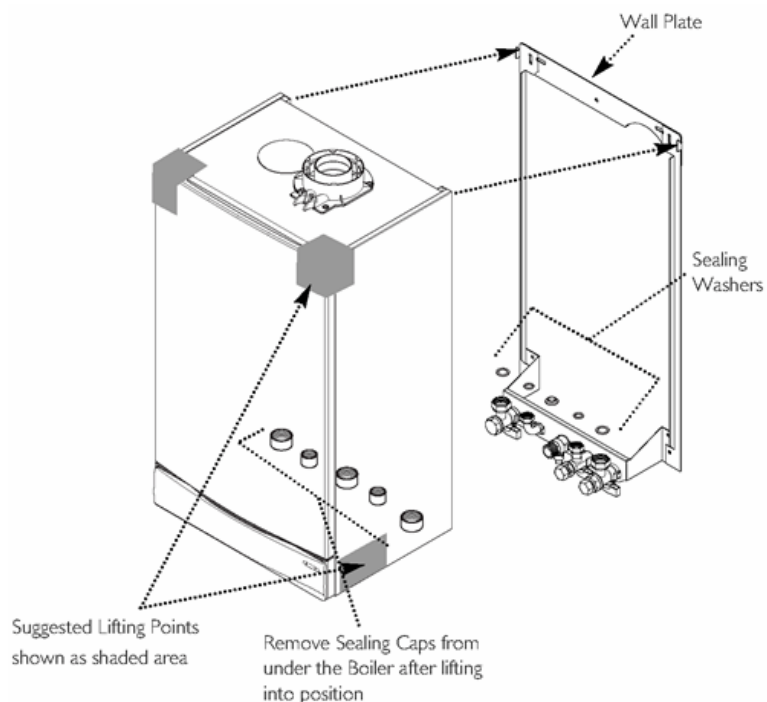

Fig. 43
1. Lift the boiler using the Lifting Points as shown by the shaded areas (Fig. 43). The boiler should be lifted by TWO PEOPLE. Engage the slots at the top rear of the boiler on the wall plate (see Safe Manual Handling).